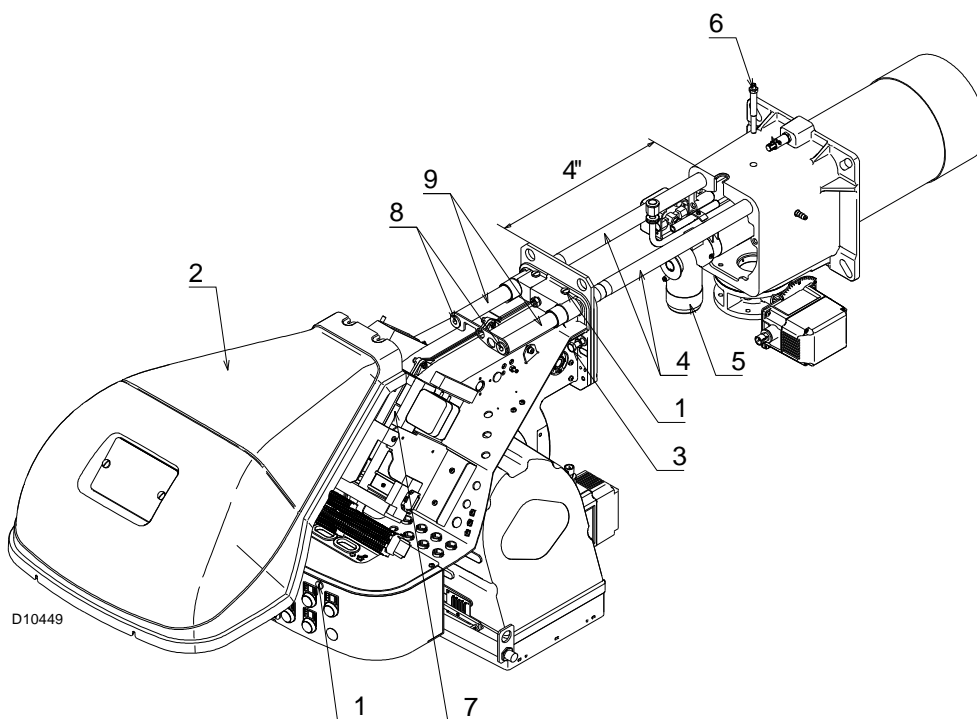

Fig. 39
- loosen the 4 screws 1) (Fig. 39) and remove the cover 2);